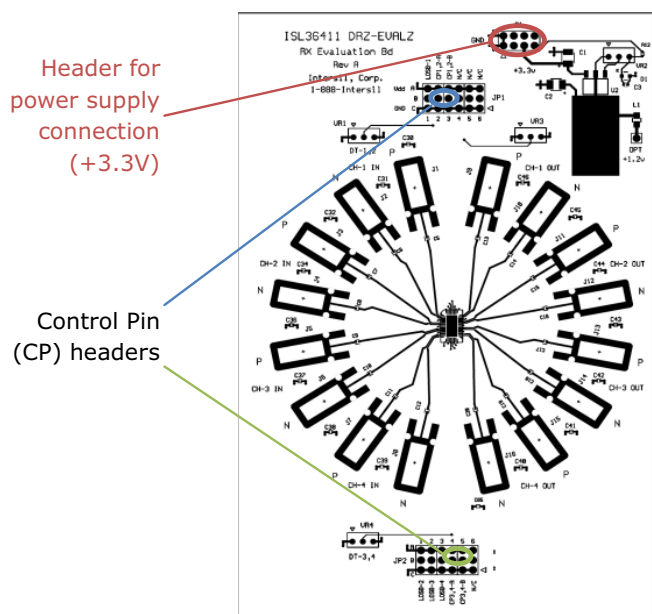
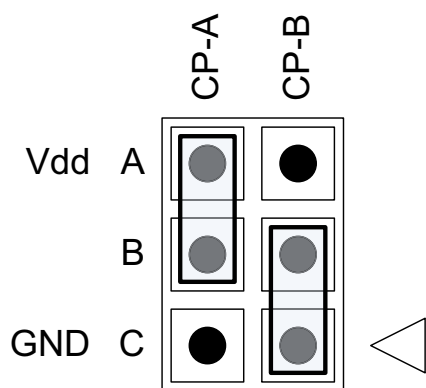

FIGURE 1. ISL36411DRZ-EVALZ EVALUATION BOARD
FIGURE 2. JUMPER CONFIGURATION TO ACHIEVE BOOST 7
This section describes the setup of the ISL36411DRZ-EVALZ evaluation board: making sure proper power is applied, connecting to the high-speed RF inputs and outputs, and adjusting the levels of loss compensation (boost) applied by the ISL36411's four equalizing filters. The board is shown in Figure 1.
Each of the four equalizing filters in the ISL36411 provide nine different levels (0 to 8) of adjustable loss compensation (or boost). The boost levels of Channels 1 and 2 are controlled simultaneously by the control pin (CP) headers located at JP1 on the north-side of the board and highlighted in blue in Figure 1. The boost levels of Channels 3 and 4 are controlled simultaneously by the control pin (CP) headers located at JP2 on the south-side of the board and highlighted in green in Figure 1. Boost levels are set by positioning jumpers on the appropriate header as illustrated in Figure 2. For both sets of headers, CP-A and CP-B can each be set to one of three values (Vdd, GND, or Floating). Table 1 gives the jumper positions required to achieve various boost levels. As an example, Figure 2 depicts the jumper positions that set the filter compensation level to boost 7 (CP-A = Vdd and CP-B = GND).